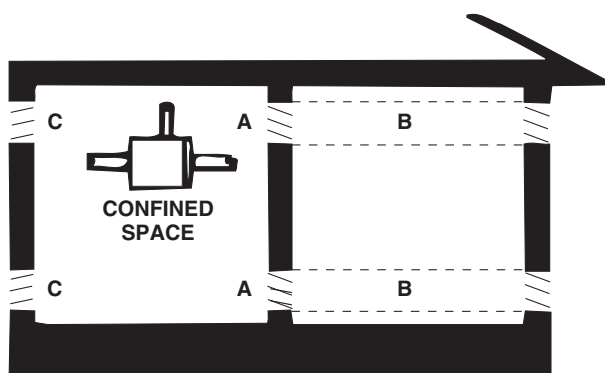

Figure 3. Confined Space Combustion Air Openings (Refer to Table 6)
- For confined space installation, provide openings (depending on the combustion air source) near the floor and ceiling for ventilation and air for combustion, as shown in Figure 3 and as listed in Table 6.
*See Figure 3.